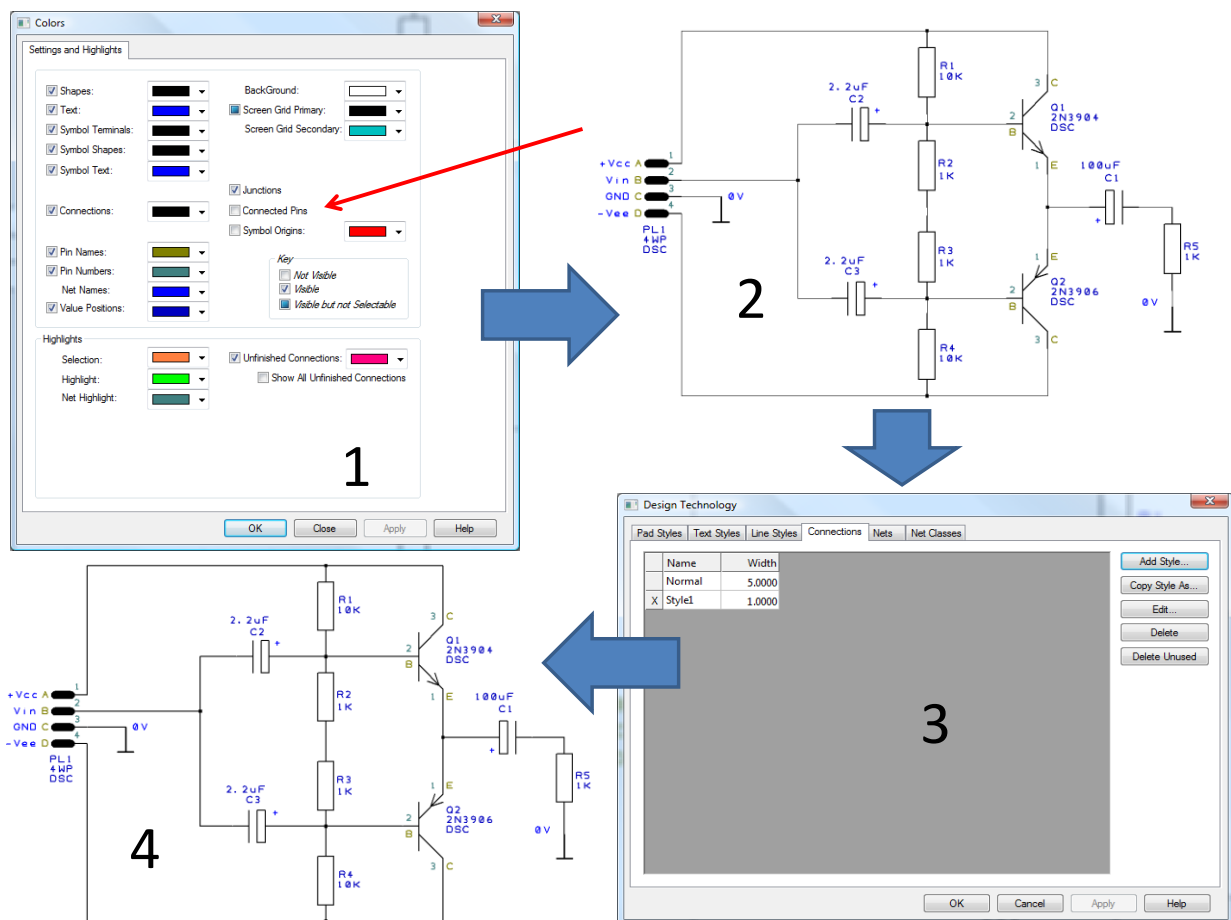

Figure 6-19: Generating Schematics Styles
5. After connecting the components, you will see that the connections are shown with a cross. It is good practice to use the cross to indicate unconnected pins, so we will switch off the "Connected Pins" option as shown in the Figure 6-19 image 1.
7. It is a good idea to have the "Symbol Terminals" switch on, and the "Connected Pins" switch off in the "Colours" screen (Figure 6-19 image 1). This ensures you only see the cross on unconnected pins (image 2). This makes it easier when adding connections to the schematic, to see which pins are left to be connected.
9. In the “Design Technology” screen, select the “Connections” tab, and select the “Add Style” button (Figure 6-19 image 3).